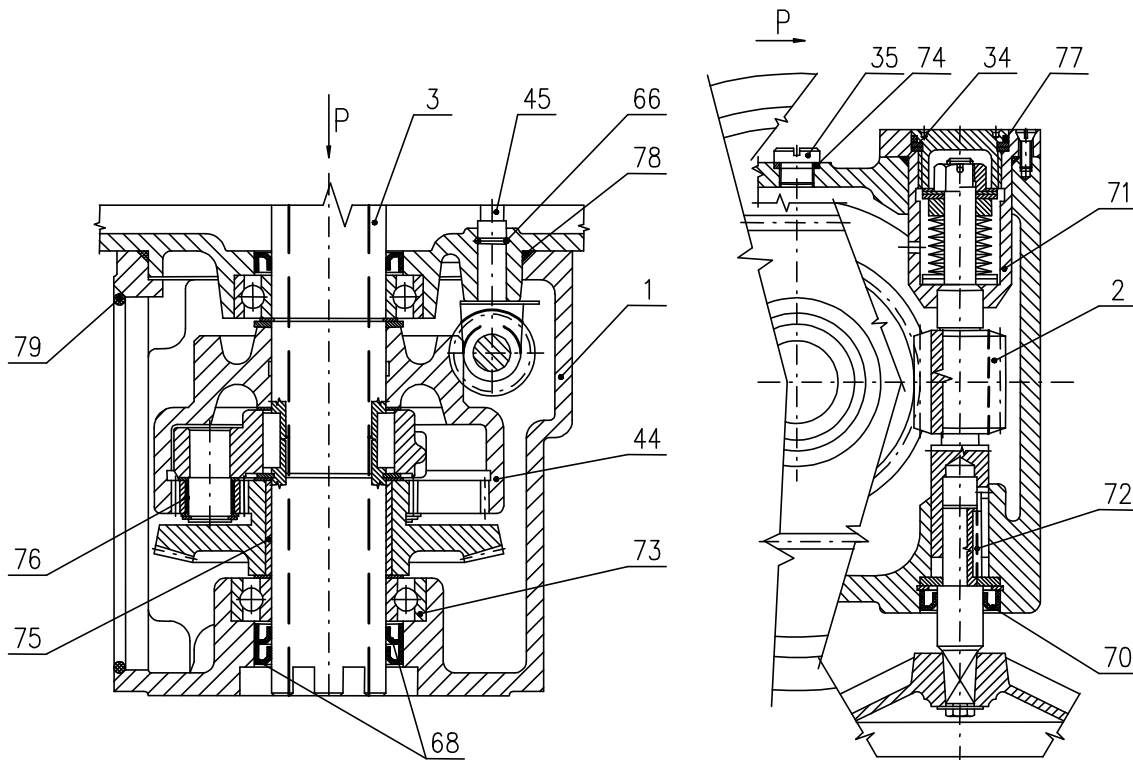
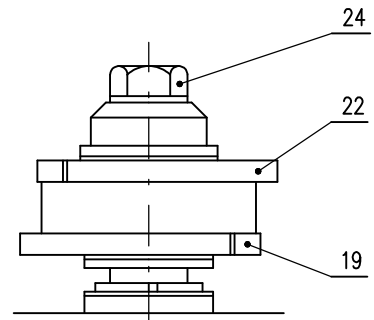

Fig.2
Fig. 6
**Module M3 – a gearbox with a manual control mechanism (Fig.2)**
### Transmitter unit (Fig. 6)
Cam unit is formed by two adjustable cams (19) and (20) (Fig.6) placed on the shaft of the torque control element (45) (Fig.2). The cams turned according to set switch-off force.
It changes rotary movement of the output shaft (3)(Fig.2) to linear movement of output spindle (83). The bronze joint nut with a trapezoidal thread is put into teeth of the output shaft (3). The frame (85) limits rotation of the output shaft (83) and function to indicate position. Pointers (86) "O" (open) or "Z" (closed) indicate position and they are fixed on actuators supporting columns (87).